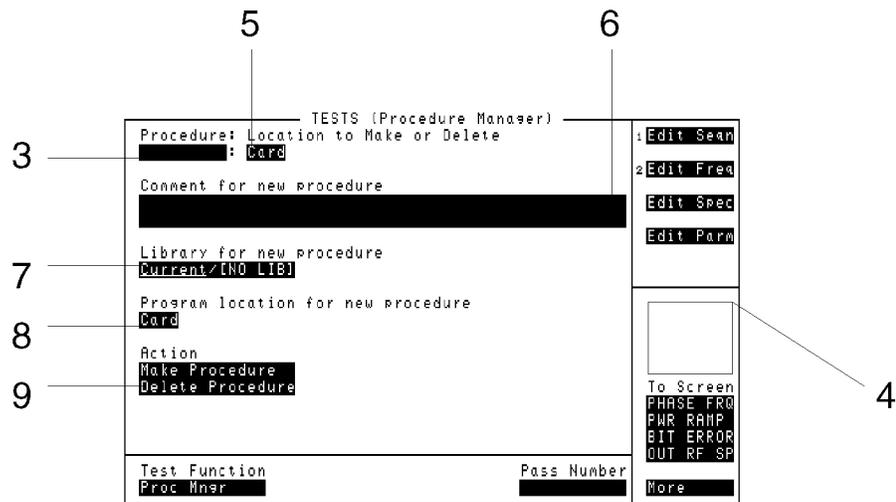

Figure 8-5 Making a Test Procedure File
- 3 Select the **Procedure** field shown by item (3), see Figure 8-5 on page 8-15.
- 4 Enter the Test Procedure filename that you want to make or delete by using the alpha/numeric list of characters shown by item (4), see Figure 8-5 on page 8-15.
- 5 Select the **Location to Make or Delete** field shown by item (5), see Figure 8-5 on page 8-15, then select the file's location to be on memory card, RAM, or Disk from the list of choices shown in item (4).
- 6 Enter up to two lines of comments to identify the new Test Procedure. Refer to item (6), see Figure 8-5 on page 8-15.
- 7 Select whether the new Test Procedure will use the current Test Library or if it will use no library as shown by item (7), see Figure 8-5 on page 8-15.
- 8 Select where the program for the Test Procedure is to be found. Refer to item (8), see Figure 8-5 on page 8-15.
- 9 Select the **Make Procedure** field or the **Delete Procedure** field as shown in item (9).